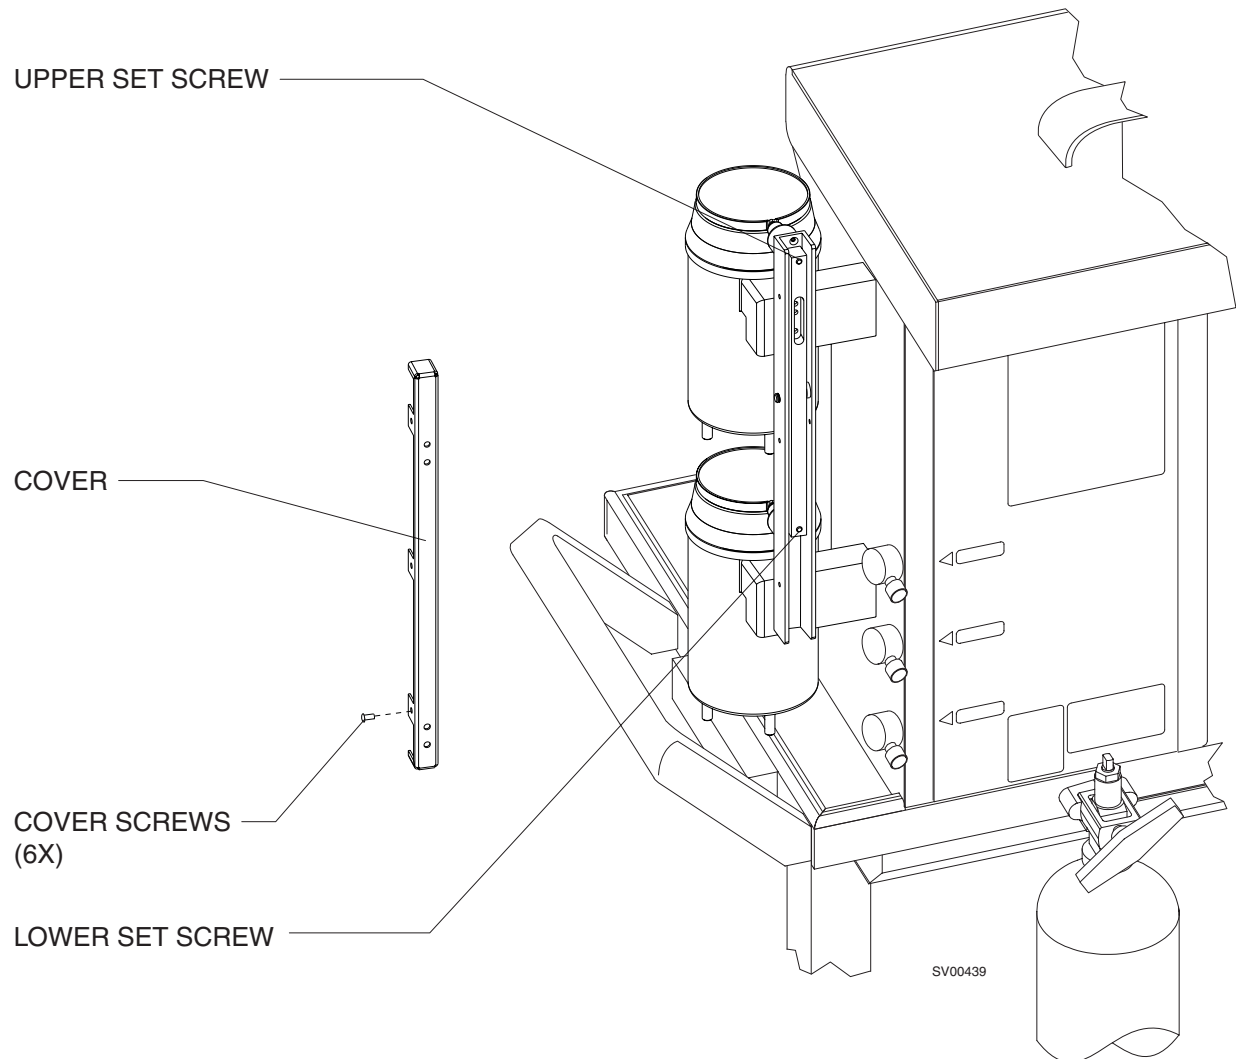

FIGURE 5-6. Vaporizer Interlock Adjustment
- 5.7.5.1 With a test fixture connected as shown in Figure 5-6, apply a pressure of 50 cm H₂O to the pressure sample line.
- 5.8.2 Turn the upper vaporizer handwheel ON. The lower vaporizer should now be locked in its zero position. If the lower vaporizer does not lock, remove the cover from the exclusion system (see Figure 5-6) and adjust the lower set screw on the interlock bar until the lower vaporizer handwheel locks properly.